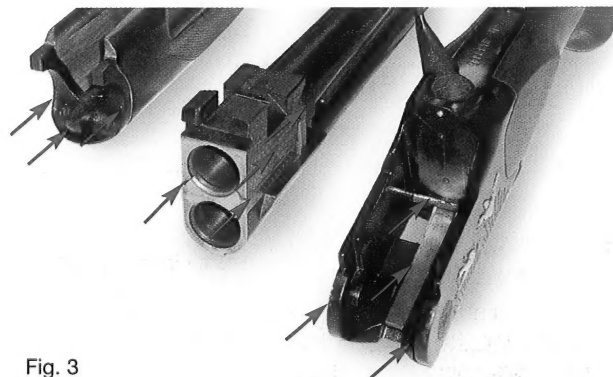

Fig. 3
2. Apply a small amount of high quality lubricant to all surfaces on both sides marked with red arrow in Fig 3.